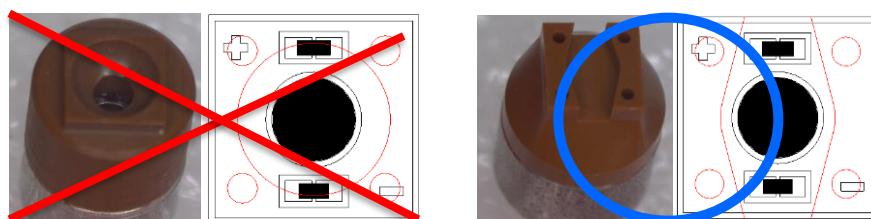

Figure 3. incorrect Collet(left) and correct collet(right) of UV Package
- UVC PKG consist of Lens and Zener (or Chip), which is placed outside of Lens. When using collet in the “Pick & Place process” as shown in fig.3(left), Chip or Zener can be damaged by Collet. (for example : LENS could be pressed, Chip could be broken or fell out) .
- It is recommended to use collet as shown in Fig.3(right). The Collet can carry out “Pick and Place Process” properly by avoiding damages of chips or Lens.